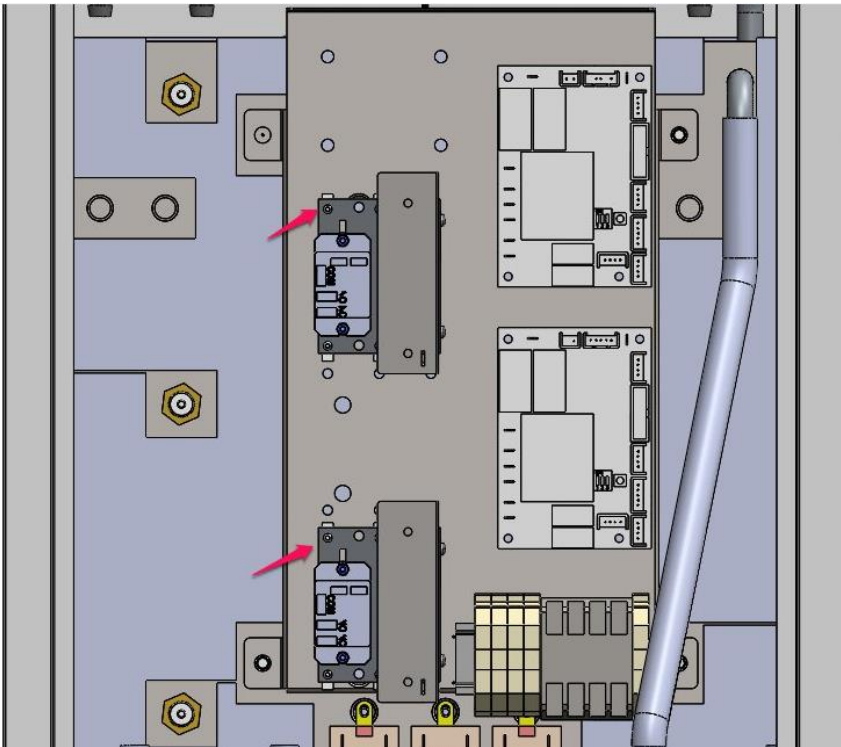

Fig 12
- Position the new PSU on the 6 pillar supports as per Fig 12. Note: **There is only one correct orientation so earth cable can reach base. See Fig 12 position and fit.**